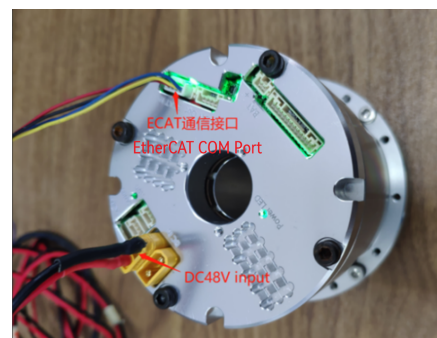

Figure 7-2 EtherCAT wiring
Step 1: As shown in Figure 7-2, install a computer with master software (TwinCAT3) or other master controllers with EtherCAT communication, connect to eRob ECAT communication interface via cables, and then supply proper power for the eRob.